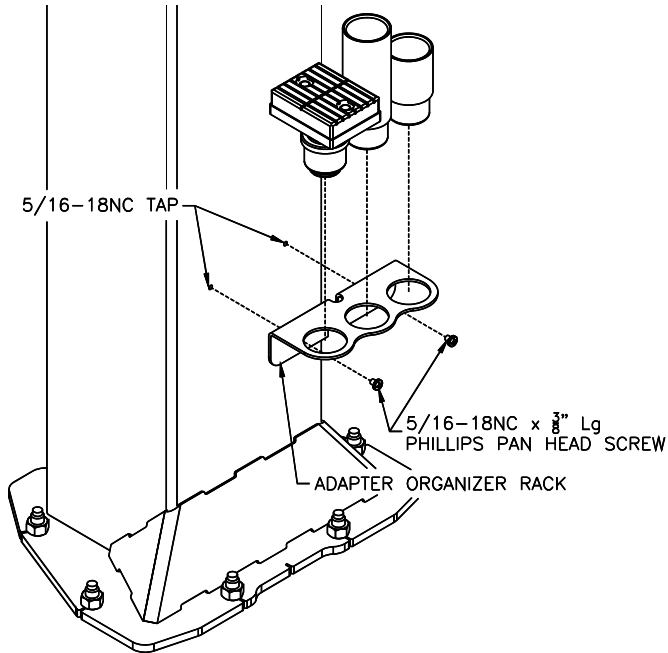

Fig 22-Adapter Rack Installation
- 62) Locate the two pre-drilled holes on the back of each column 19" up from the top of the base plate and tap 5/16-18. Center the adapter rack and attach with 5/16-18NC Phillips Pan Head Screws supplied, **Fig. 22**.